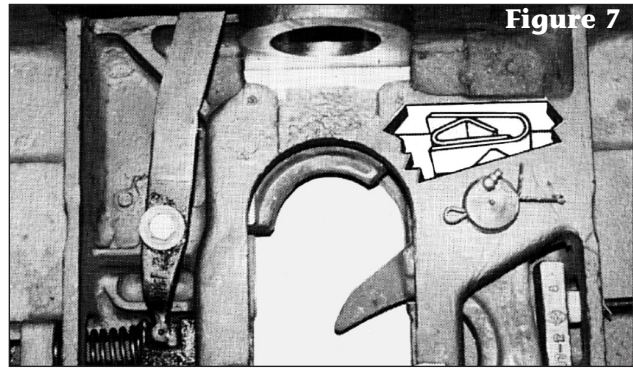

Figure 7
7. Install the stationary lock (6) in the casting with the large counterbore facing down. Install the lock nut (19) onto the jaw and tighten until tight, but still allowing the lock to rotate slightly to ensure alignment with the kingpin.
8. Apply grease to spring (7) and install it into the casting. Position it as shown in **Figure 7**.
9. Coat the lock pin hole in the swinging lock (6) with Never-Seez® (supplied with kit). **This is VITAL. DO NOT USE** any substitute lubricant.